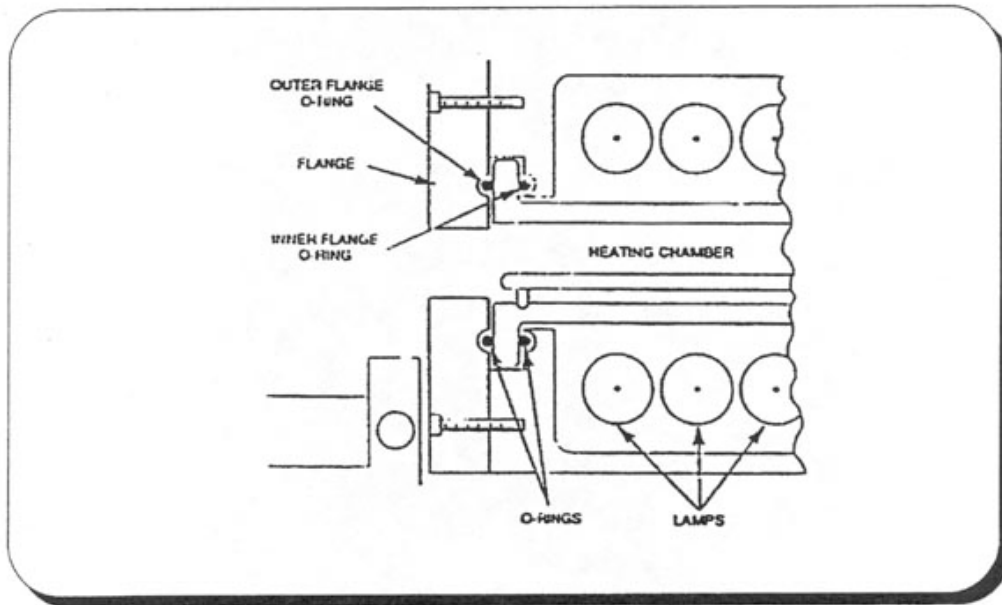

Figure 6-5. Flange O-rings
6. Install the inner flange O-ring. (See **Figures 6.5** and **6.6**.)
7. Install the quartz isolation tube by inserting it into the heating chamber with the window at the bottom (see **Figures 6-5 & 6.6**).
8. Install the outer O-ring to the flange, as shown in **Figure 6.5**.